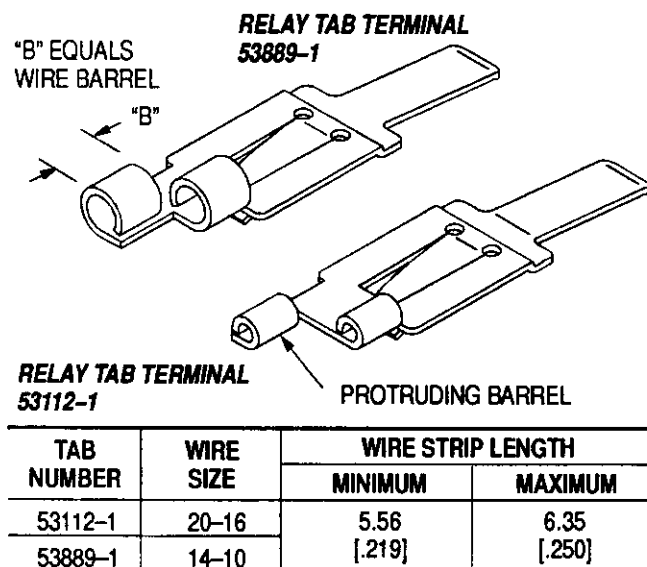

Figure 3
1. Strip wire to dimension listed in Figure 3.